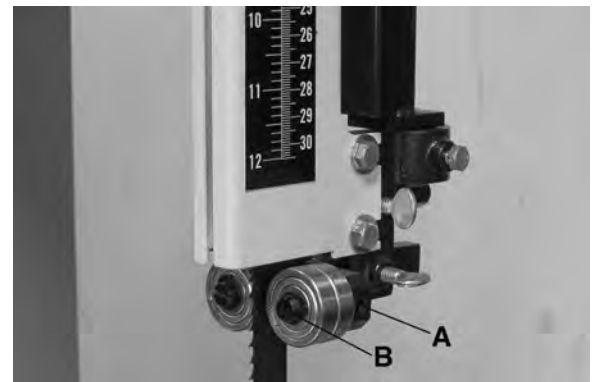

FIGURE 16
4. Adjust the upper and lower ball bearing blade guides away from the blade for blade clearance. Using a hex. key, loosen set screw (A) Fig.16 and using a flat screwdriver, turn screw (B) a quarter of a turn towards the outside to move ball bearing away from blade. Repeat for the other side and the lower ball bearing blade guide below the table.